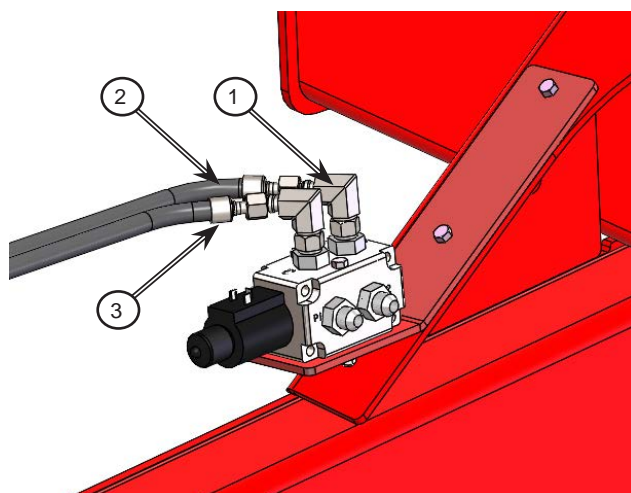

Figure 2.2: Connect the hydraulic hoses
4. Install the hydraulic elbow fittings (1) onto the  $\frac{3}{8}$ " x 76" (2) and  $\frac{3}{8}$ " x 68" (3) hydraulic hoses and fasten them to the top ports on the ESV, as shown in *Figure 2.2*.